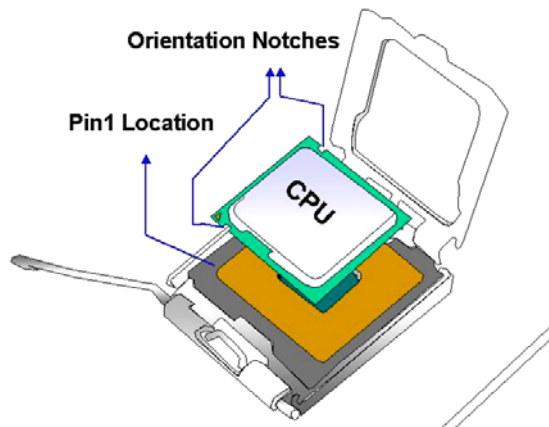

Figure 4-7: Insert the Socket LGA775 CPU
Step 10: Insert the CPU. Gently insert the CPU into the socket. If the CPU pins are properly aligned, the CPU should slide into the CPU socket smoothly. See **Figure 4-7**.